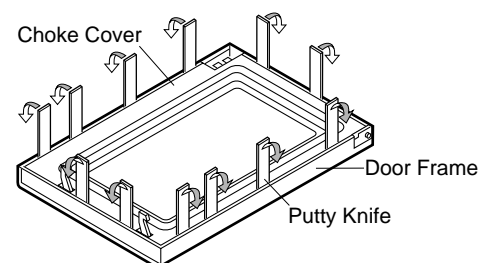

Figure C-4. Door Disassembly
3. Insert a putty knife (thickness of about 0.5mm) into the gap between the choke cover and door frame as shown in Figure C-4 to free engaging parts.
4. Pry the choke cover by inserting a putty knife as shown in Figure C-4.